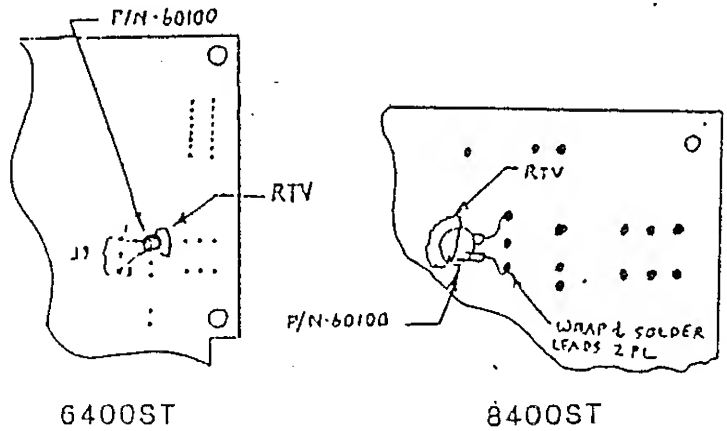

Figure 2
3. On the solder side of the Power PCB, carefully remove the Mylar insulator and locate solder pads of J9. See Figure 2.
Carefully solder the MOV (P/N 60100) to the other pins (1 and 3) of J9. Lay the MOV (P/N 60100) over flat on the board and secure it with a small dab of RTV. See Figure 2.